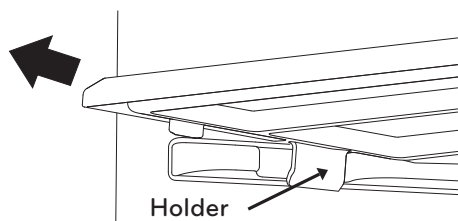

Fig. 13
2. Pull the shelf outwards lifting it slightly until it leaves the hold from the bracket Fig. 13.